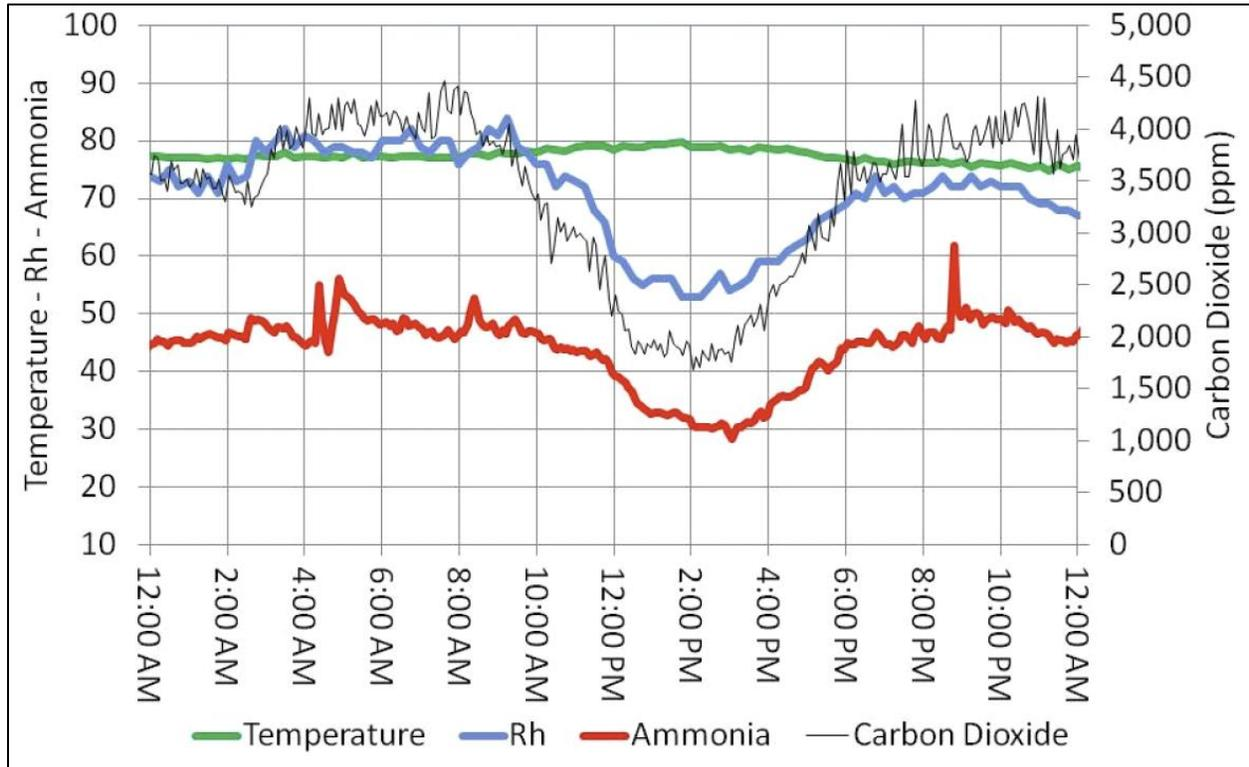

Figure 1. House temperature, relative humidity (Rh), carbon dioxide and ammonia levels in a house with 21 day old birds (December).
Most people think minimum ventilation is all about air quality but that is only partially correct. First one should define good air quality. Many people define good air quality as ammonia (NH_3) concentrations of 25 ppm or less, carbon dioxide (CO_2) concentrations of 5,000 ppm or less and carbon monoxide (CO) concentrations of 50 ppm or less. Minimum ventilation rates are not based on oxygen concentration. However, the main purpose of minimum ventilation is moisture control which can be achieved by maintaining relative humidity (Rh) levels between 40 and 60%. NH_3 , CO_2 and Rh concentrations are positively correlated, meaning that if Rh is high then NH_3 , and CO_2 will be elevated as well (Figure 1.).